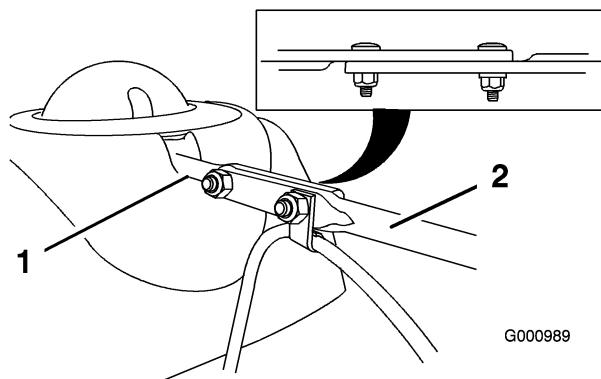

Figure 9
- Align the flattened back end of the long chute control rod with the flattened front end of the short rod that extends from the control panel so that they nest together (Figure 9).